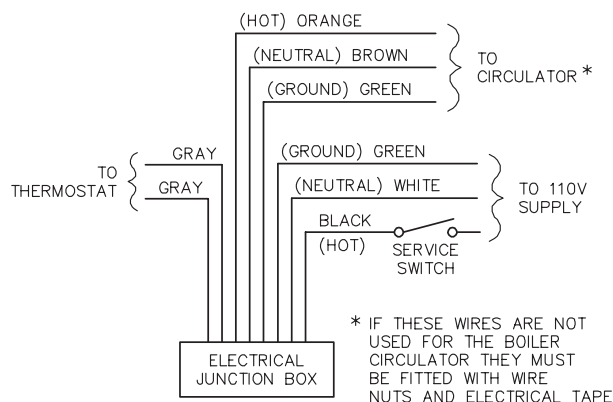

Figure 6.1: Wiring Connections to Boiler Junction Box
1. Refer to Figures 6.1 for connecting the power supply to the boiler.
4. Wire the burner service switch in the hot line to the boiler as shown in Figure 6.1.
7. Figure 6.1 shows connections to system circulator.
8. The thermostat connections are shown in Figure 6.1 or 6.2. The setting for the thermostat anticipator is 0.56 amps.